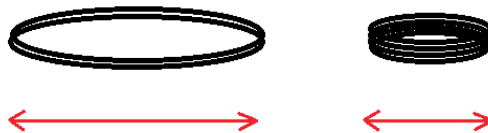

Figure 2.6. Two coils
2. Make another loop coil of 1 meter, but with a different diameter. Can you let the coil rotate faster? Note: a loop coil with a smaller diameter will have more loops than a loop coil with a greater diameter (figure 2.6).